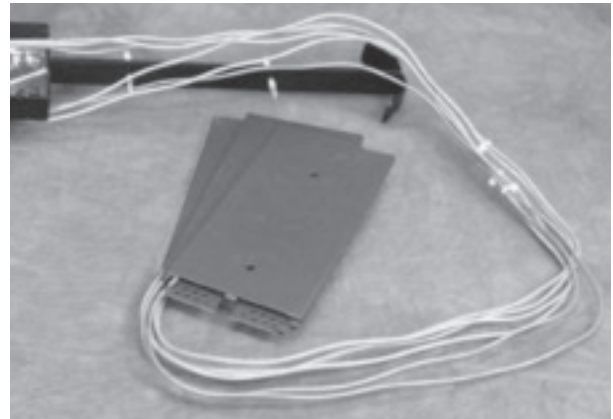

Figure 16
- Step 1:** Place the spliced trays onto the studs on the frame (Figure 16).